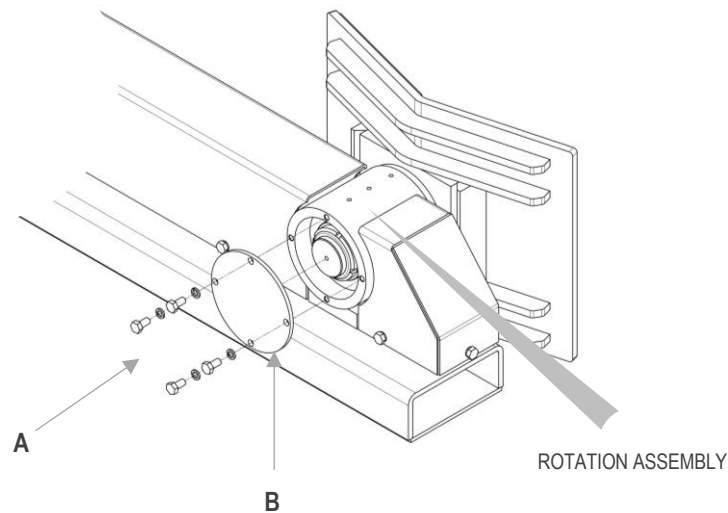

Figure 40
2. Unscrew the bolts **A** of the closure cover **B** (rotation assembly) on the opposite side of the pad (see Figure 40)